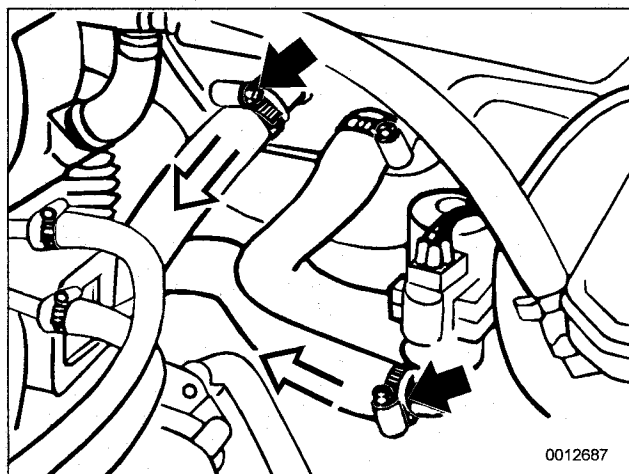

Fig. 26. Disconnect heater hoses at heater valve (A) and heater core (B).
7. Disconnect heater hoses at rear of cylinder head. See Fig. 26.